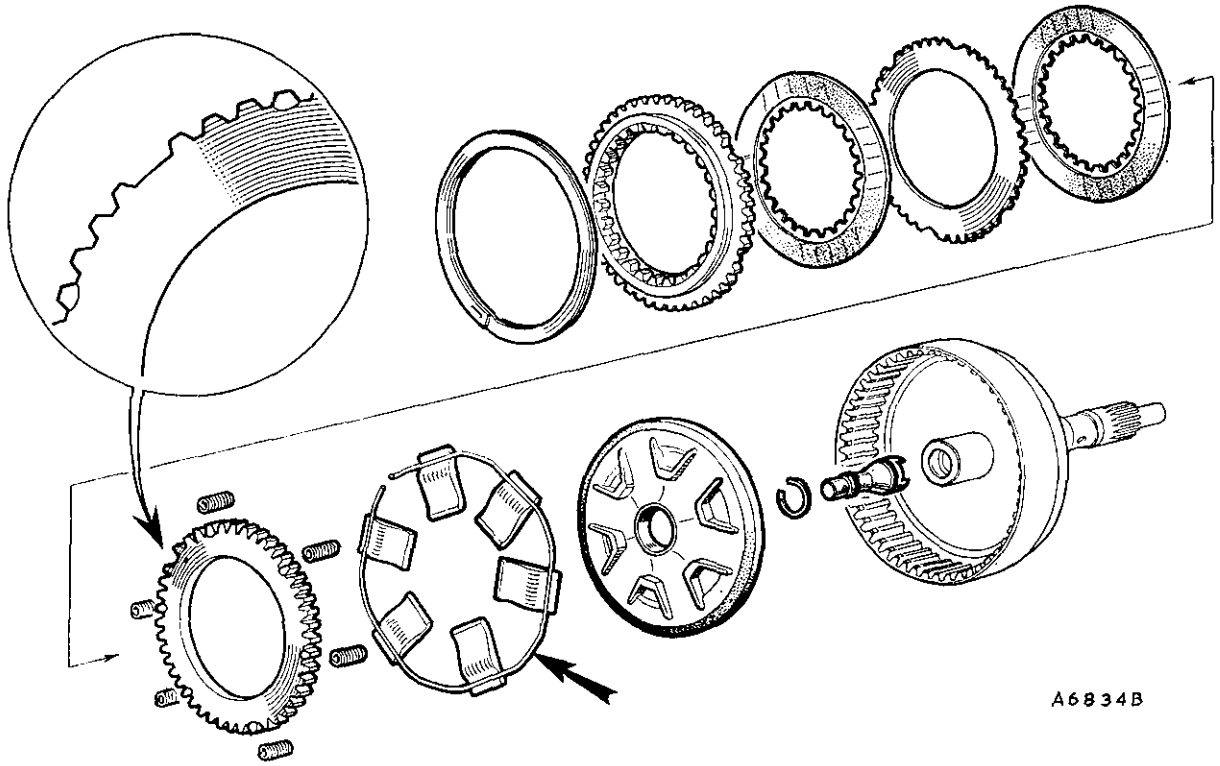
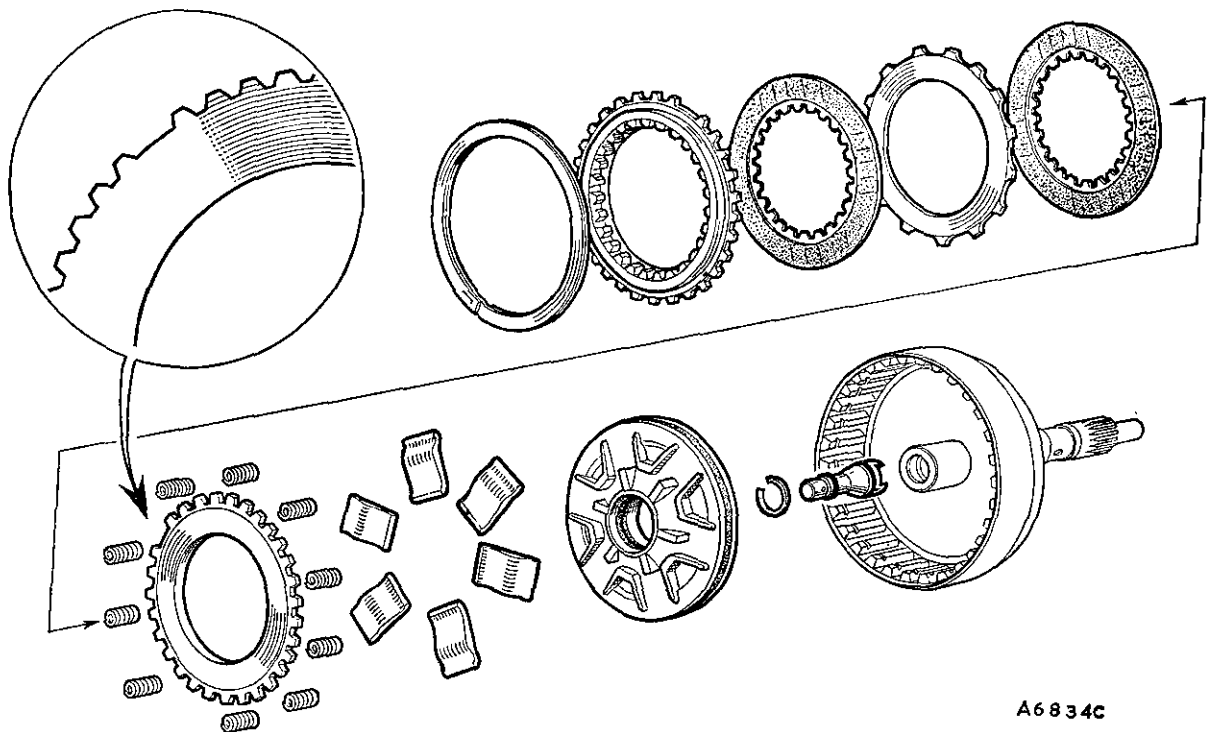
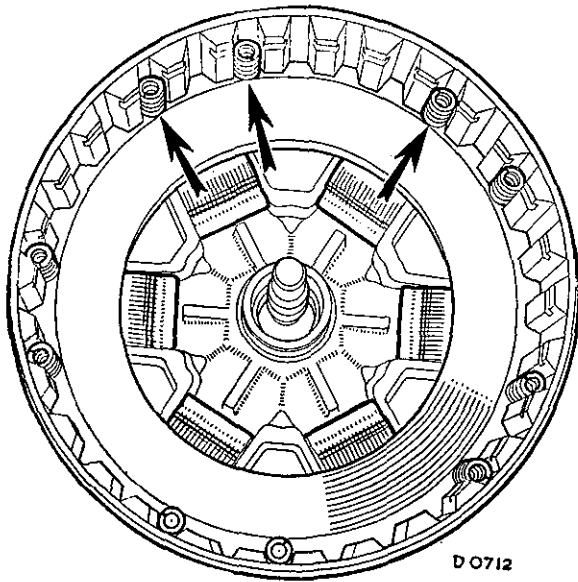

Fig. Fa.34
Fig. Fa.35
Fig. Fa.36
Two types of clutch assembly are in use; the earlier type having 47 teeth is shown in Fig. Fa.34. This unit is now replaced by the 30-tooth clutch as shown in Fig. Fa.35. The two clutch assemblies are not interchangeable; when a replacement unit is required only the identical unit to that removed must be fitted.
- (2) Remove the circlip.
- (3) Remove the retainer plate and clutch plates (two paper, one steel).
- (4) Lift out the piston return springs and pressure plate.
- (5) Remove the spring ring (if fitted) and toggles (see Fig. Fa.34).
- (6) Use an air pressure line to blow out the piston.
- (7) Remove the circlip and lift out the reverse shut-off valve.
- (9) Using Service tool 18G 1102, assemble the piston with the lips of the seal facing inwards and lubricated with transmission oil.
- (10) 47-tooth clutch. Assemble the toggles and spring ring (early units) with the ends of the spring ring located as shown in Fig. Fa.33, and with the cut-out tooth on the pressure plate in the relative position to the ends of the spring ring (Fig. Fa.34). Assemble the clutch plates and the piston return springs.
- (11) 30-tooth clutch. Assemble the toggles, pressure plate, and the piston return springs as shown in Fig. Fa.36. Refit the clutch plates and the retainer plate (see Fig. Fa.35).